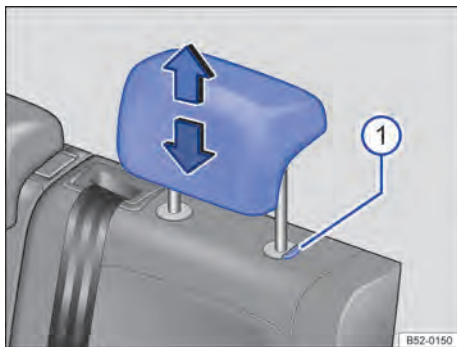

Fig. 67 Rear seat head restraints: adjust.
- Move the headrest up or down in the direction of the arrow with the button → Fig. 67 ① held down → ▲ in *Introduction* on page 77.
- Press and hold → Fig. 67 ① to remove the head rest.
- Press and hold → Fig. 67 ① to push the head rest downwards.